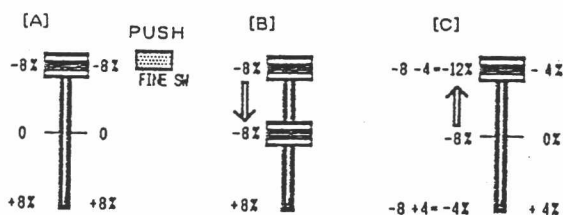

**FIGURE 1**
14. **Outdoor Antenna Grounding** — If an outside antenna or cable system is connected to the video product, be sure the antenna or cable system is grounded so as to provide some protection against voltage surges and buildup static charges. Section 810 of the National Electrical Code, ANSI/NFPA No. 70-1984, provides information with respect to proper grounding of the mast and supporting structure, grounding of the lead-in wire to an antenna discharge unit, size of grounding conductors, location of antenna-discharge unit, connection to grounding electrodes, and requirements for the grounding electrode. See Figure 1.